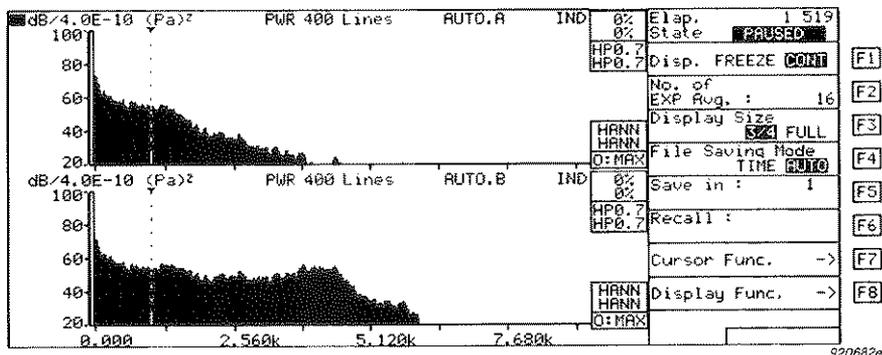

Fig. 4.11 Printout of Measurement Mode with the GRAPHIC option selected
- If you select GRAPHIC, the read-out is a true raster copy of the current analyzer screen, see Fig. 4.11.